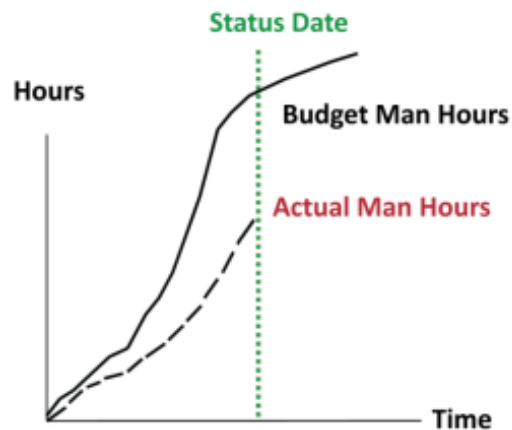

Figure 1 – Target Plan Manhours vs. Actual Manhours Expenditure
- ❑ There are **two types of comparisons** that can be developed (for **simplicity's** sake Figure 1 and 2 below reference hours, but just as easily could be replaced with costs):